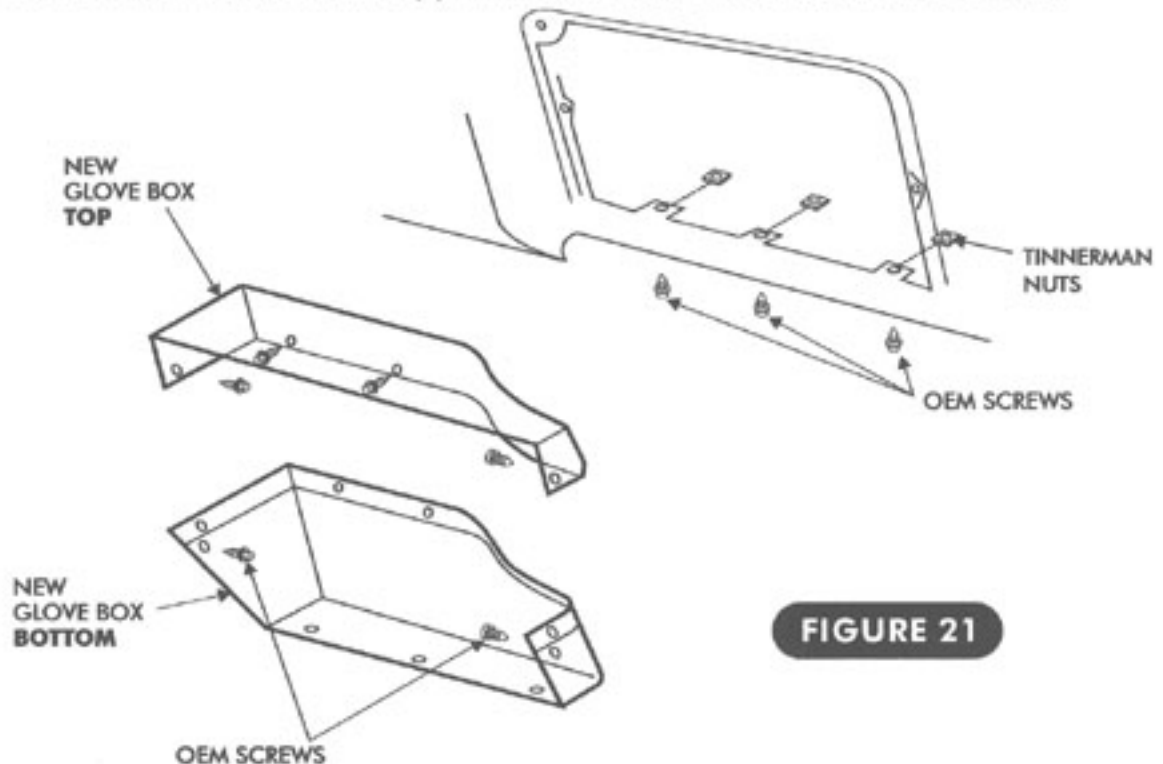

FIGURE 21
- LOCATE THE THREE (3) TINNERMAN NUTS PREVIOUSLY REMOVED FROM THE ORIGINAL GLOVE BOX SHELL AND SLIDE THEM INTO POSITION AT DOOR HINGE HOLES PUNCHED IN DASH.
- INSERT BOTTOM HALF OF NEW GLOVE BOX, SECURING ONLY WITH ONE OEM SCREW ON EACH SIDE THROUGH DASH HOLES (SEE FIGURE 21).
- INSERT TOP HALF OF GLOVE BOX AND FASTEN TO BOTTOM HALF USING FIVE (5) #6 x 3/8" BLACK PAN HEAD PHILLIPS SCREWS (SEE FIGURE 21).
- INSTALL GLOVE BOX DOOR USING THREE (3) OEM SCREWS THROUGH THE TINNERMAN NUTS.